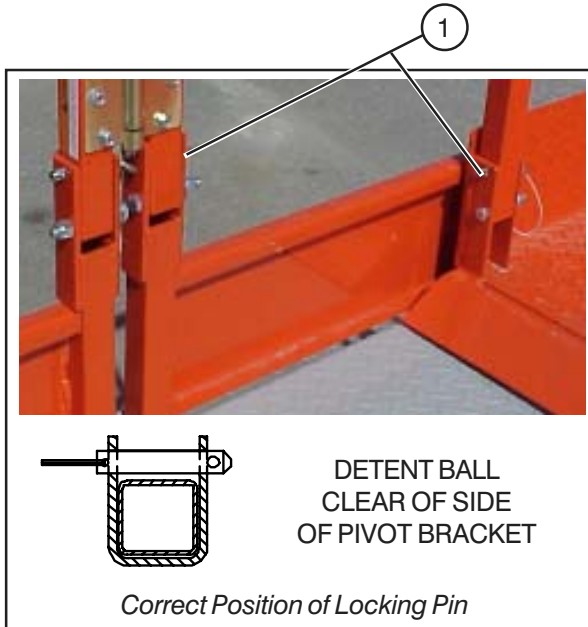

Figure 2-11. Folding Guardrail System
- Guardrail Locking Pin with Lanyard** - To fold the guardrail system down, remove the locking pin at each pivot point and lower each guardrail. To raise the guardrail system, swing up each guardrail and lock in place with the locking pins ensuring that the detent ball of each pin is all the way through and clear of the side of the pivot brackets (Figure 2-11).